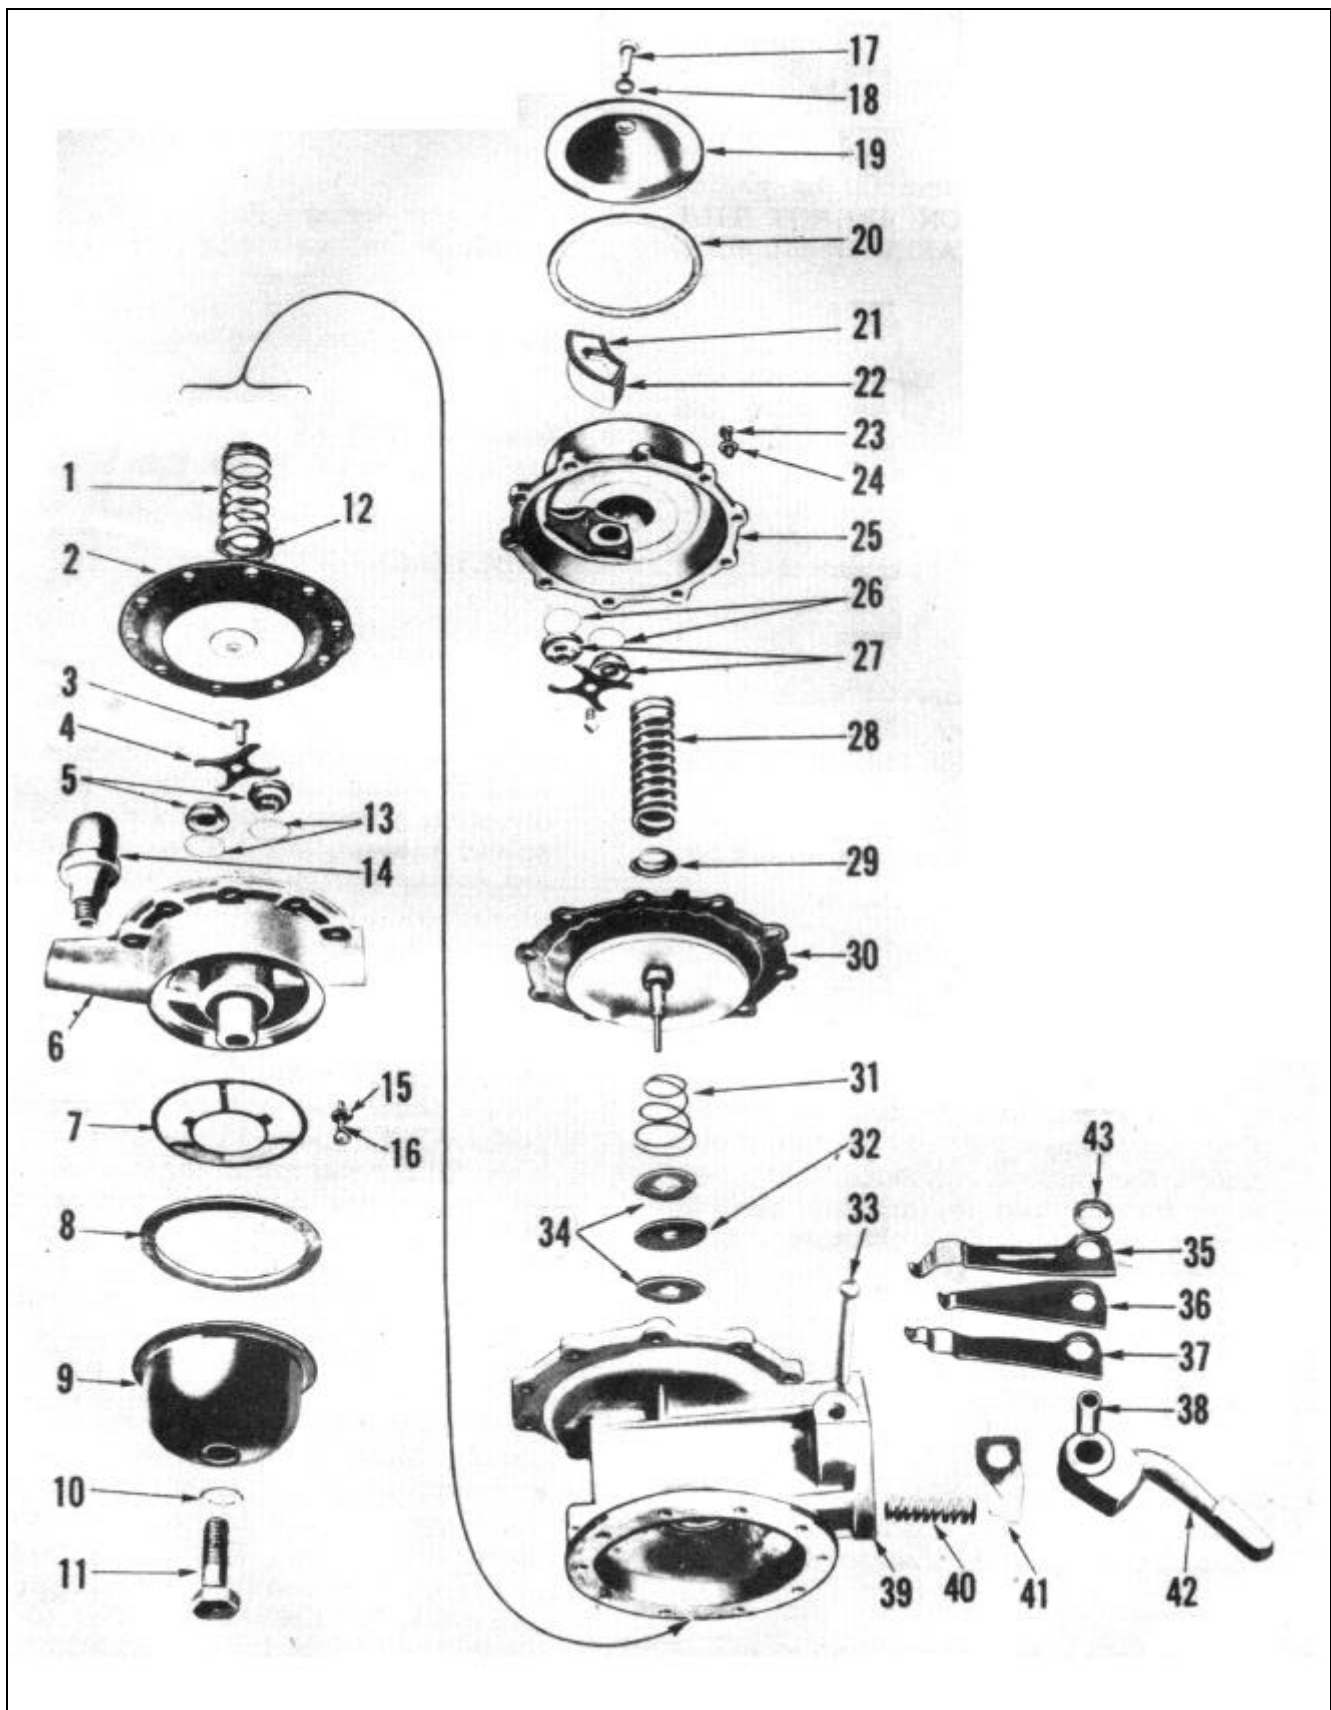

FIGURE 106
1. Mark edges of fuel cover (25), Figure 106, and body diaphragm flanges with a file. The parts may then be reassembled in the same relative position.
2. Remove fuel cover screws (23) and lock-washers. Separate cover from body by jarring cover loose with a screwdriver handle. Remove diaphragm spring (28) and retainer (29). Remove valve cage retainer screw and remove retainer and cage assemblies (27) and gaskets (26).
3. Mark edges of vacuum cover (6) and body diaphragm flanges. The parts may then be reassembled in the same relative position.
4. Remove two screws from opposite sides of the vacuum cover, and substitute for them two No. 10-32 X 1-1/2 inch fillister head screws. Turn the two long screws all the way down, and then remove the balance of the regular cover screws. Alternately back off the two long screws, a few turns at a time, until the force of the heavy vacuum diaphragm spring is no longer effective. Remove the two long screws, the cover assembly, diaphragm spring (1), and spring retainer (12).
5. File riveted end of rocker arm pin (33) flush with steel washer, or drill off end with 3/8" drill. Drive out rocker arm pin with a drift punch. Wiggle rocker arm (42) until links unhook from both diaphragms. Then remove rocker arm spring (40), rocker arm, and the link assembly.
6. Remove bushings (38) from rocker arm before removing rocker arm (42), two vacuum links (35 and 37), one fuel link (36), link spacer (41), and link washer (43).